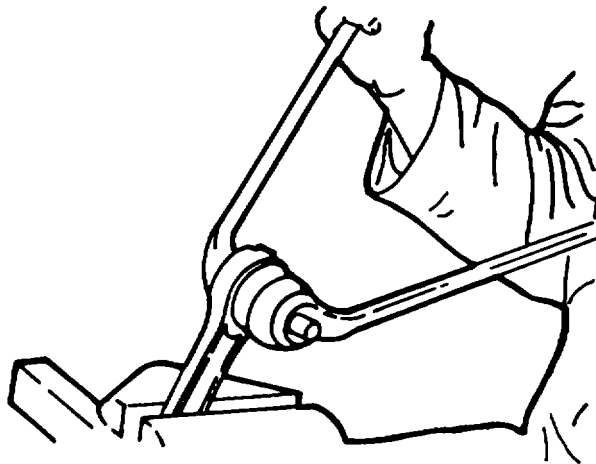

Figure 4-18. Removing/Installing Piston Pin Bushing
- d. Pull out old piston pin bushing with fixture No. 003-1079 and pull in new piston pin bushing with the same device (figure 4-18).